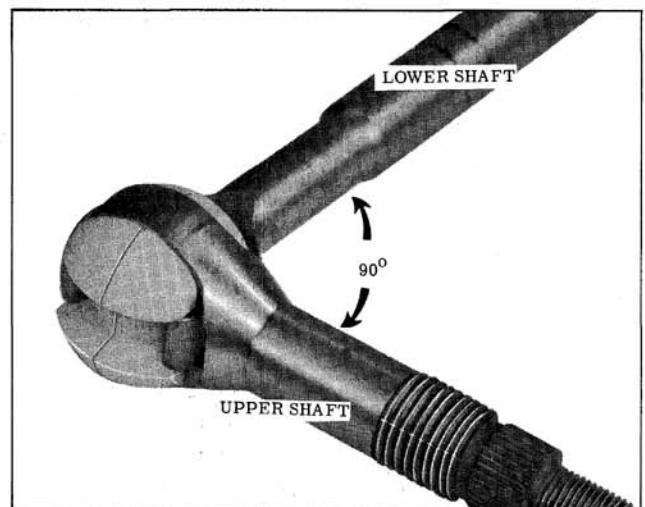

Fig. 8-104 Removing Sphere and Upper Shaft
7. Turn the upper shaft 90° from the center line of the lower shaft and remove the upper shaft and sphere from the lower shaft. (Fig. 8-104)